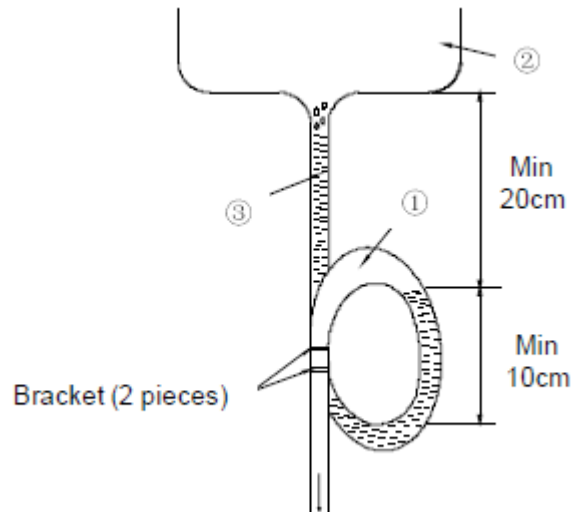

Figure 2-24 Drainage of condensed water
- To ensure the drainage of the condensed water, a water trap must be installed outside of the cabinet. (Refer figure 2-24.)
- A water trap 1 (As shown in fig. 2-24) must be installed 30 cm below the water pan 2 (As shown in fig. 2-24), and the trap must be installed in the movable floor under the unit.
- Charge water 3 (As shown in fig. 2-24) in the water trap.